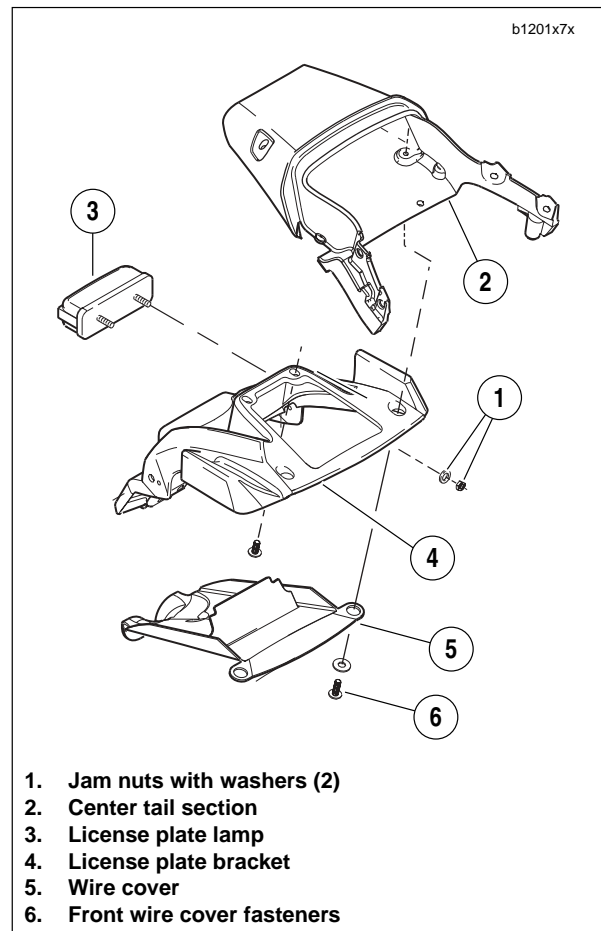

Figure 7-52. License Plate Lamp
1. See Figure 7-52. Install **new** license plate lamp assembly.
- a. Insert license plate lamp wiring harness through hole and route into the center tail section (2) and the license plate bracket (4).
- c. Attach lamp (3) and wire cover (5) to tail section using washers and jam nuts (1) and tighten to 12-36 **in-lbs** (1.4-4.1 Nm).
- d. See Figure 7-52. Attach front of wire cover by installing remaining fasteners (6) and tightening to 36-48 **in-lbs** (4.1-5.4 Nm).
2. See Figure 7-52. Remove rear wire cover.